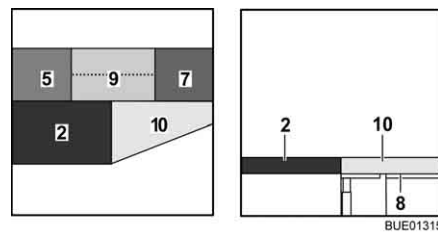

Fig. 141 After conversion
- Unfold the additional cushion (Fig. 141,9) and lay it on the table.
- Place the additional cushion (Fig. 141,10) on the bed widening.